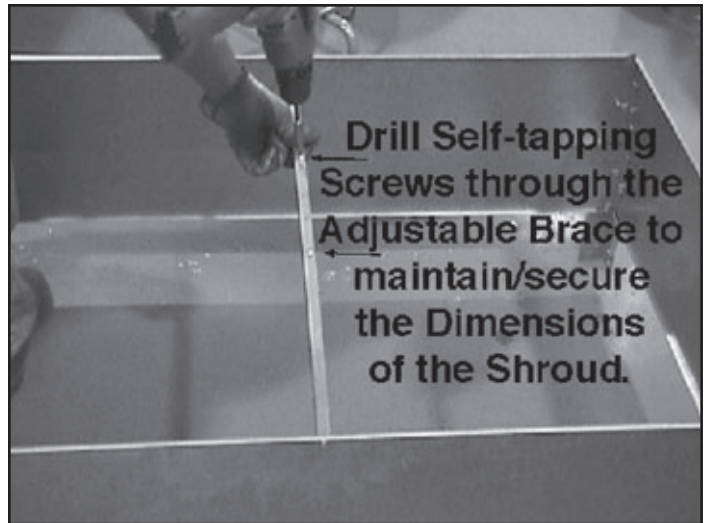
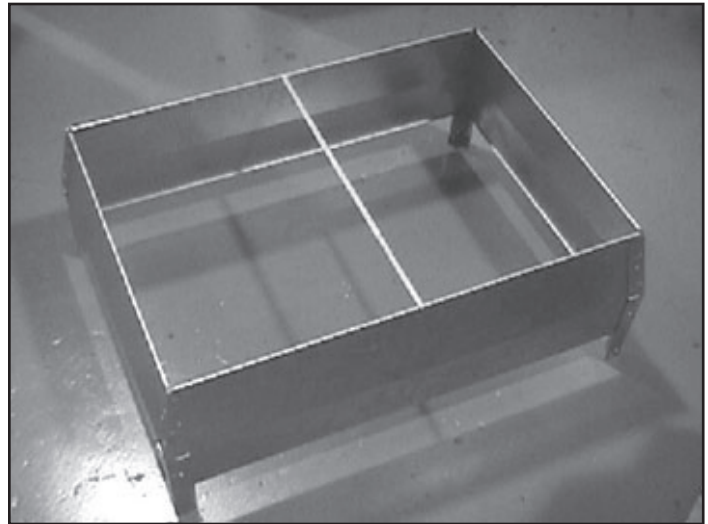

Figure 22 Secure Adjustable Brace
Figure 23 Shroud with Top Wind Brace Installed
- Screw the brace pieces together in order to maintain/secure the dimensions of the shroud. See Figure 22. The shroud with the top wind brace installed is shown in Figure 23.